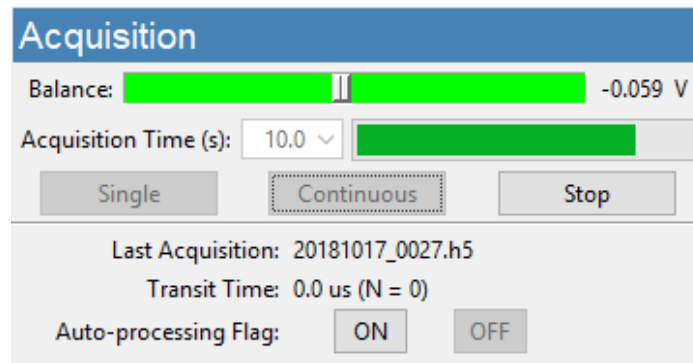

Figure 7. Acquisition frame.
- Continuous-mode acquisition may be manually started by pressing the “Continuous” button (Figure 7). Repeat acquisitions are collected until the user presses the “Stop” button or until user-defined “Set Acquisition Stop Point” value is reached, see page 18.